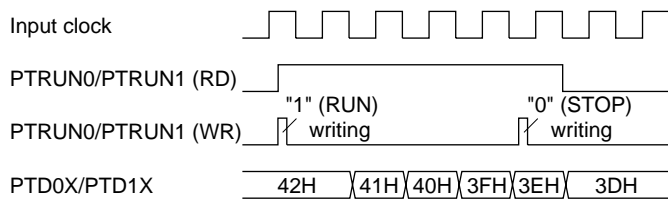

Fig. 5.2.1 Timing chart for RUN/STOP control
- (2) The programmable timer actually enters RUN/STOP status in synchronization with the falling edge of the input clock after writing to the PTRUN0/PTRUN1 register. Consequently, when "0" is written to the PTRUN0/PTRUN1 register, the timer enters STOP status at the point where the counter is decremented (-1). The PTRUN0/PTRUN1 register maintains "1" for reading until the timer actually stops. Fig. 5.2.1 shows the timing chart for the RUN/STOP control.